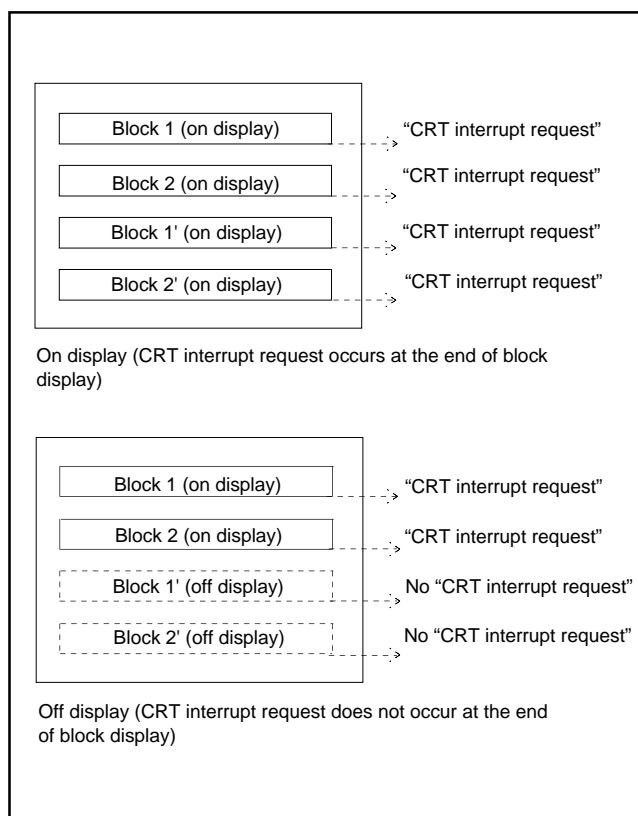

Fig. 45. Timing of CRT interrupt request
**Note:** A CRT interrupt does not occur at the end of display when the block is not displayed. In other words, if a block is set to off display with the display control bit of the CRT control register (address 00EA16), a CRT interrupt request does not occur (refer to Figure 45).